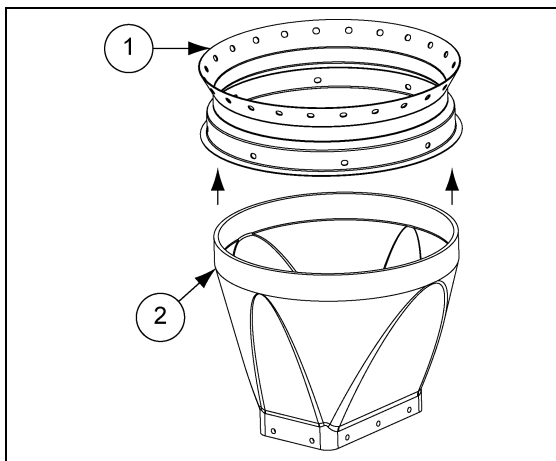
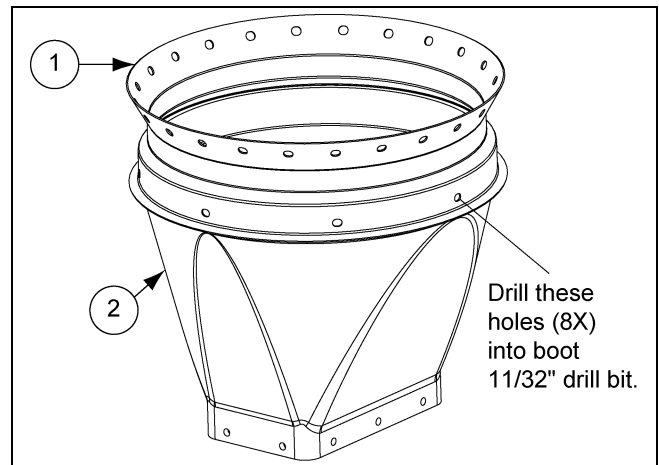

Figure 1
Figure 2
Slide the boot as far as possible into the tank collar or the Sure-Flo Feed Flow Control opening. (See Figure 1.) Align the boot with the Flex-Flo System that will be installed. Using the holes in the collars for guides, drill eight (8) 11/32" holes into the boot rim. (See Figure 2.)